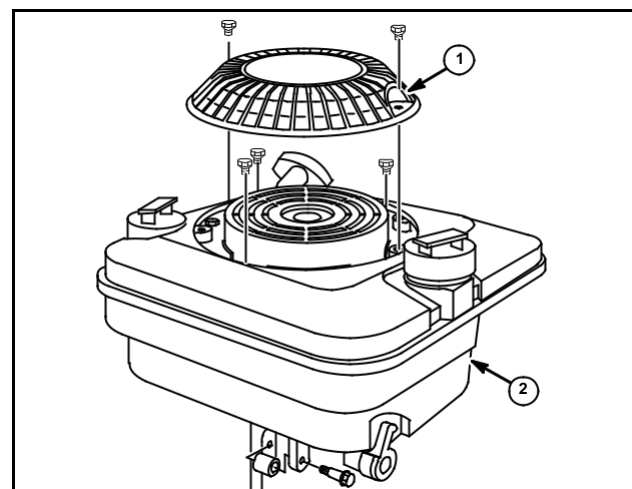

Fig. 126
1. Remove finger guard (1) and fuel tank (2), Fig. 126.